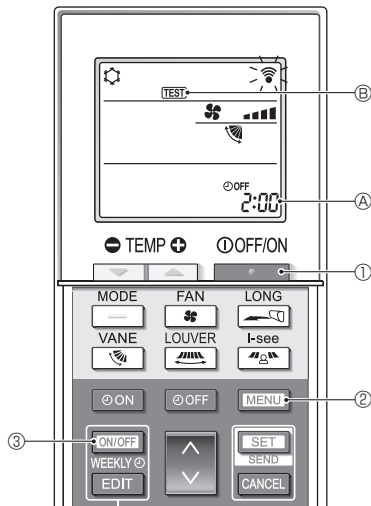

Fig. 7-5
- **Test run (Fig. 7-5)**
- Press the **ON/OFF** button ① to stop the air conditioner.
- If the weekly timer is enabled (**WEEKLY** is on), press the **ON/OFF WEEKLY** button ③ to disable it (**WEEKLY** is off).
- Press the **MENU** button ② for 5 seconds.
- Press the **MENU** button ②.